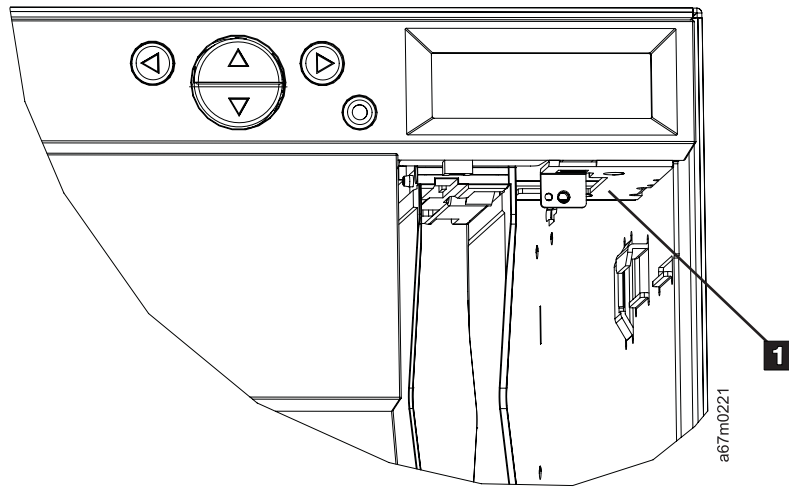

Figure 105. Connecting the Bar Code Scanner cable
- ___ 4. Locate the two receptacles (**1** in Figure 105) inside the library underneath the LCD screen. Insert the connector on the bar code scanner into the **rear** receptacle.